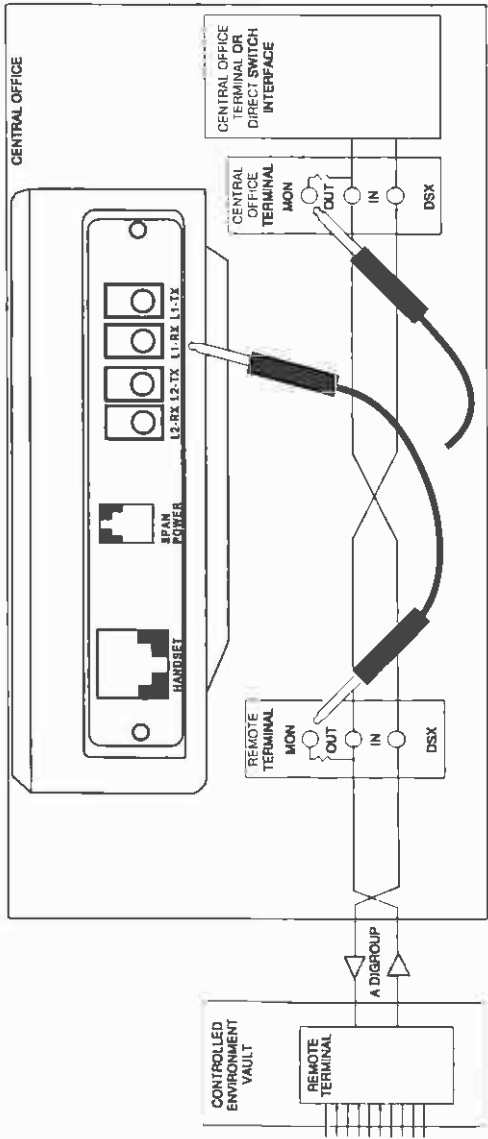

Figure 107 Monitoring SLC Data Link
2. Connect the test set to the circuit as shown in Figure 107.